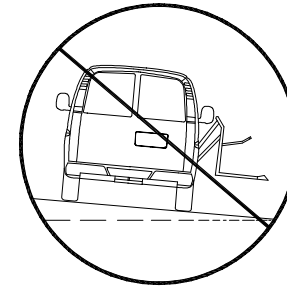

FIGURE 2-1: UNSAFE VEHICLE SLOPING
- Refer to **Figure 2-1**. A hazardous situation may exist when using the lift if the vehicle is parked on either a side or front-to-rear slope. Operate the door operator with the vehicle parked on level ground.